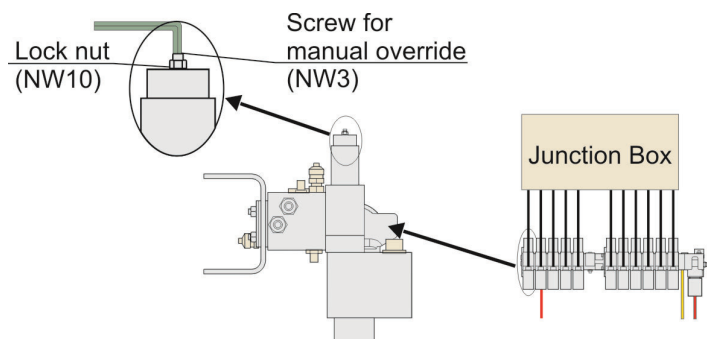

Fig.1: Ballast pump control valve – override.
4. Override control valves for required ballast pumps (fig.1):